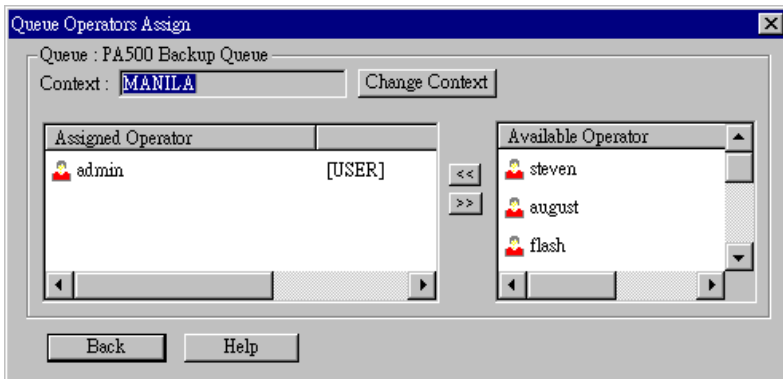

Figure 26: Assign Operators to Queue (NDS PS mode)
- **Operator** - Assign Operators to the NetWare Print Server object. (Optional) These operators will then have permission to manage the NetWare Print Server object. The screen is identical to *Figure 26: Assign Operators to Queue (NDS PS mode)*